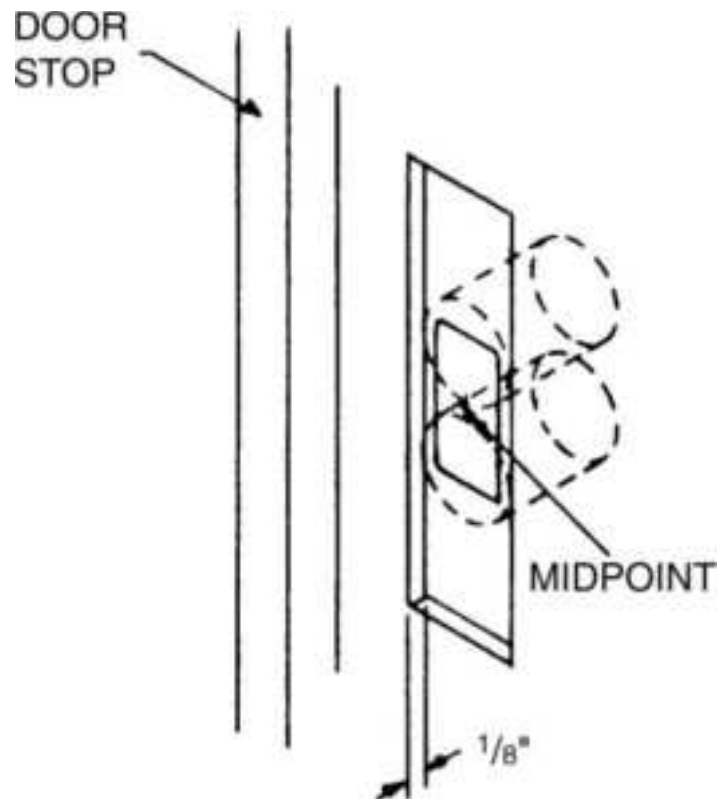

**Figure 13.50** Ensure the midpoint is centered in the middle of the strike plate hole. (*M.A.G. Engineering and Mfg., Inc.*)
4. Drill two 1-inch diameter holes  $1\frac{3}{8}$  inches deep, one  $\frac{5}{8}$  inch above and one  $\frac{5}{8}$  inch below the center mark (Fig. 13.50).